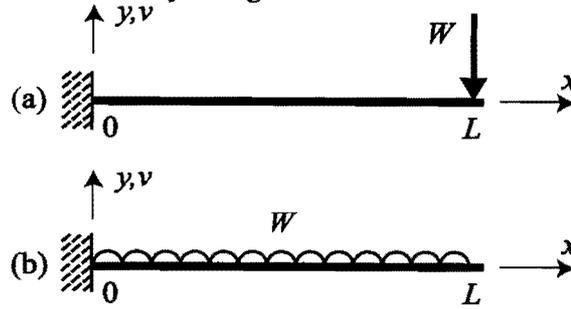

Figure 11
- † 11. (a) The elastic cantilever beam shown in Figure 11(a) has uniform bending stiffness B [Nm^2] and is straight when unloaded. It carries a concentrated transverse load W [N] at its tip, as shown.
(b) Repeat the calculation for the situation shown in Figure 11(b), where now the (total) load W is distributed uniformly along the beam.